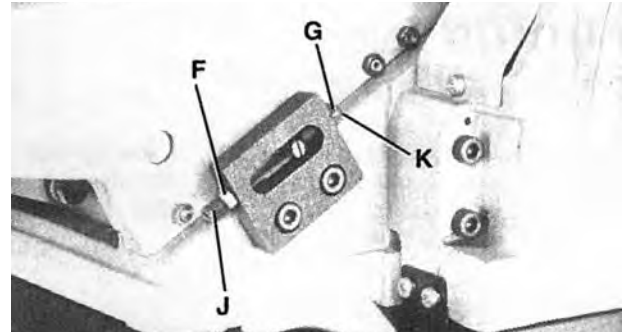

FIGURE 28
1. Positive stops are provided to limit the height and depth of the infeed table. To adjust the stops, simply loosen two lock nuts (F) and (G) Fig. 28, and turn the two adjusting screws (J) and (K) as required. Then retighten the lock nuts (F) and (G). A good suggestion is to set the upper positive stop (J) for your finish or final cut. This means that you will be able to rapidly set the infeed table for a finish or final cut without checking the scale and pointer. Also the lower positive stop (K) can be set for the maximum 1/2" depth of cut or if you desire to limit the depth of cut, adjust the stop screw (K) accordingly.